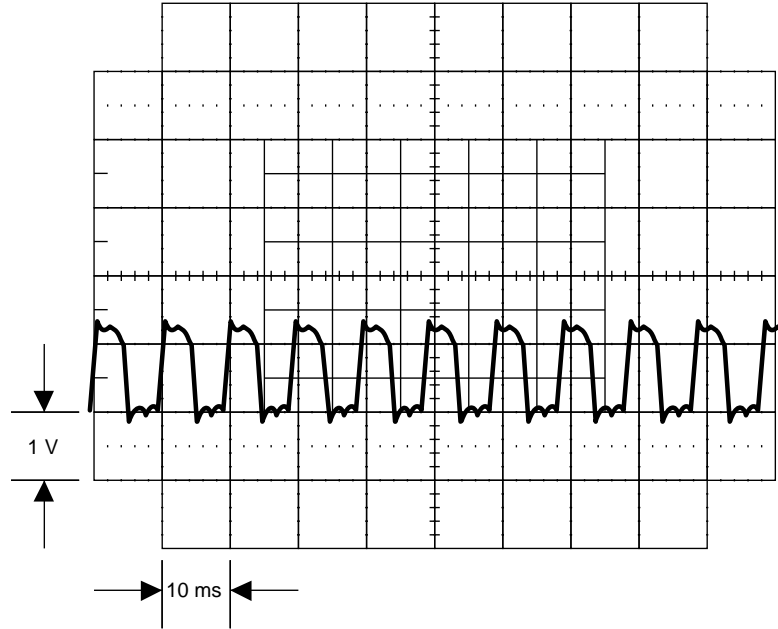

Figure 5-14. Waveform at TP13
4. Check the 6-12 MHz signal. Set the 5700A to 2V at 1 kHz, operate. Connect an oscilloscope to TP13 and verify it displays a 10 Mhz signal similar to that shown in Figure 5-14. Also measure the frequency of this signal using a frequency counter and verify it is within 9.999 MHz to 10.001 MHz. If a failure is detected, with either test continue on as follows. If the signal and frequency are correct, skip to step 9.